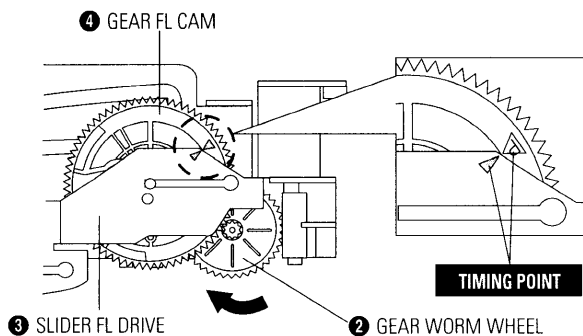

Fig. 5-15
- 3) Turn the gear worm wheel ② clockwise so that "Timing Point" of the slider FL drive ③ and gear FL cam ④ can be aligned (See Fig. 5-15)